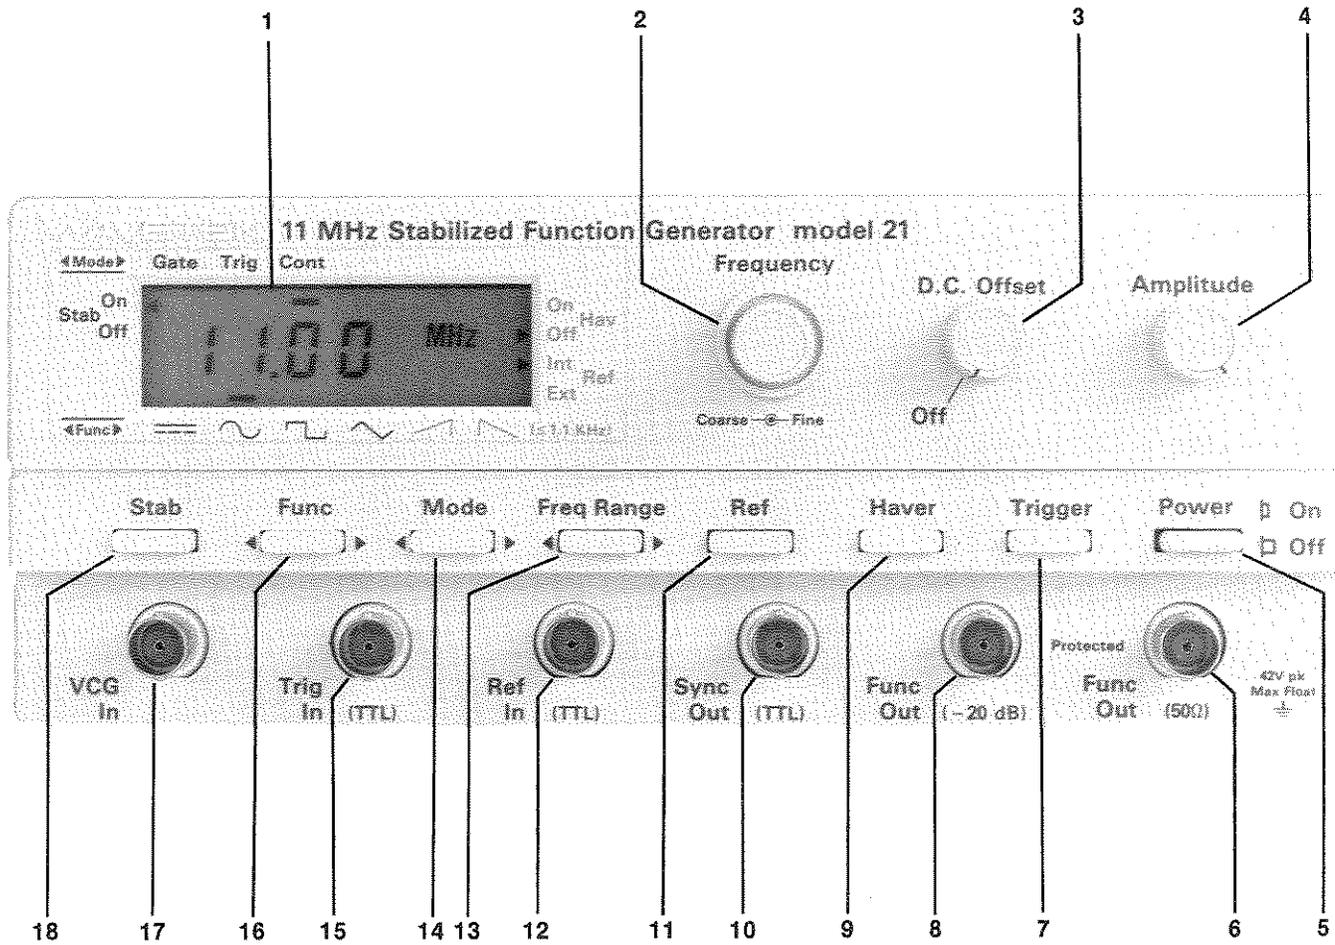
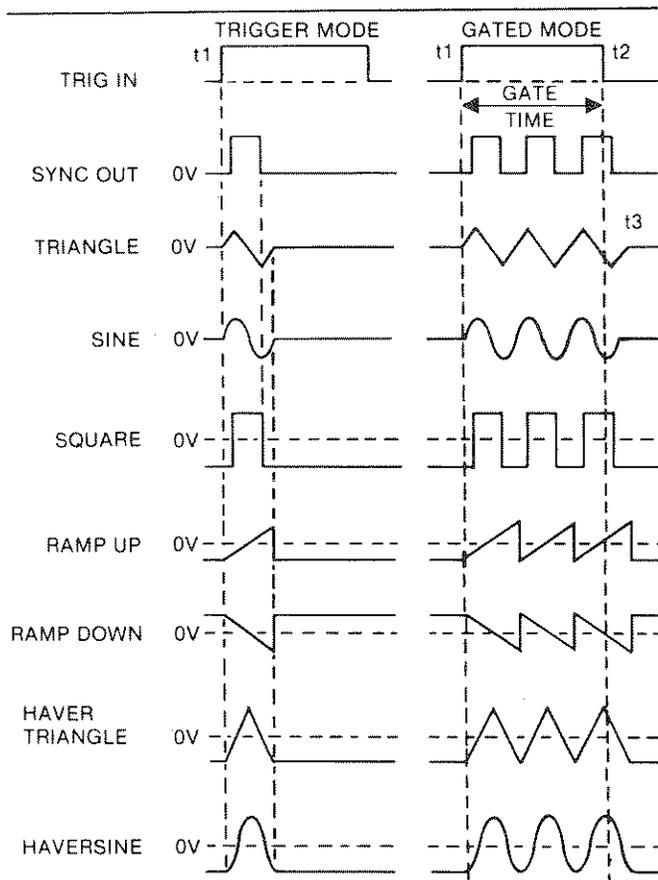

Figure 3-1. Controls and Connectors
Figure 3-3. Waveforms
The front panel controls and connectors are shown in figure 3-1 and keyed (bold numbers) to the following descriptions.
- 7 Trigger Button** In triggered mode, the trigger button, when pressed, manually initiates a single cycle of waveform. In the gated mode, it gates the output until the button is released; the last gated cycle will always be completed. The quiescent output depends on the waveform selection and dc offset (see figure 3-3).
- 10 Sync Output** This output is a TTL square wave at the frequency of the generator. This output can be used as a synchronizing reference for the Function Outputs **6** and **8**. Phase of the waveforms relative to the sync output is shown in figure 3-3.
- 9 Haver Switch** This switch selects either the normal 0° (Haver Off) or -90° (Haver On) start/stop phase of triggered sine and triangle (figure 3-3). An annunciator on the LCD display **1** indicates the
**Triggered** Generator is quiescent (quiescent level depends on waveform and offset selected, see figure 3-3) until triggered, when one complete cycle of waveform is generated.
- 15 **Trigger In Connector** This connector accepts a positive-going TTL level input ( $t_1$ ) to trigger and gate the generator, as shown in figure 3-3. A negative-going edge ( $t_2$ ) ends the gated operation. When triggered, the generator produces one complete cycle for each trigger input. When gated, the generator produces continuous cycles until the gate signal ( $t_2$ ) is removed; the last cycle started is always completed ( $t_3$ ).
Perform the initial checkout procedure in Section 2 for a feel of the instrument. Any questions concerning individual controls and connectors may be answered in paragraph 3.2. Bold numbers are keyed to figure 3-1. Outputs are shown in figure 3-3.
D.C. Offset 3	Set as desired. Limit offset to prevent clipping (see figure 3-3).